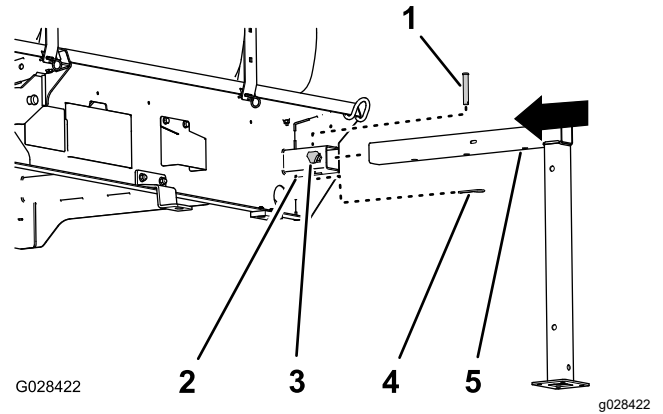

Figure 99
1. Align the front jack stand with the jack stand receiver at the front of the tank (Figure 99).
2. Insert the jack stand into the receiver until the middle hole in the horizontal jack stand tube is aligned with the hole in the top of the receiver (Figure 99).
4. Thread a lock knob into the receiver and tighten the knob by hand (Figure 99).